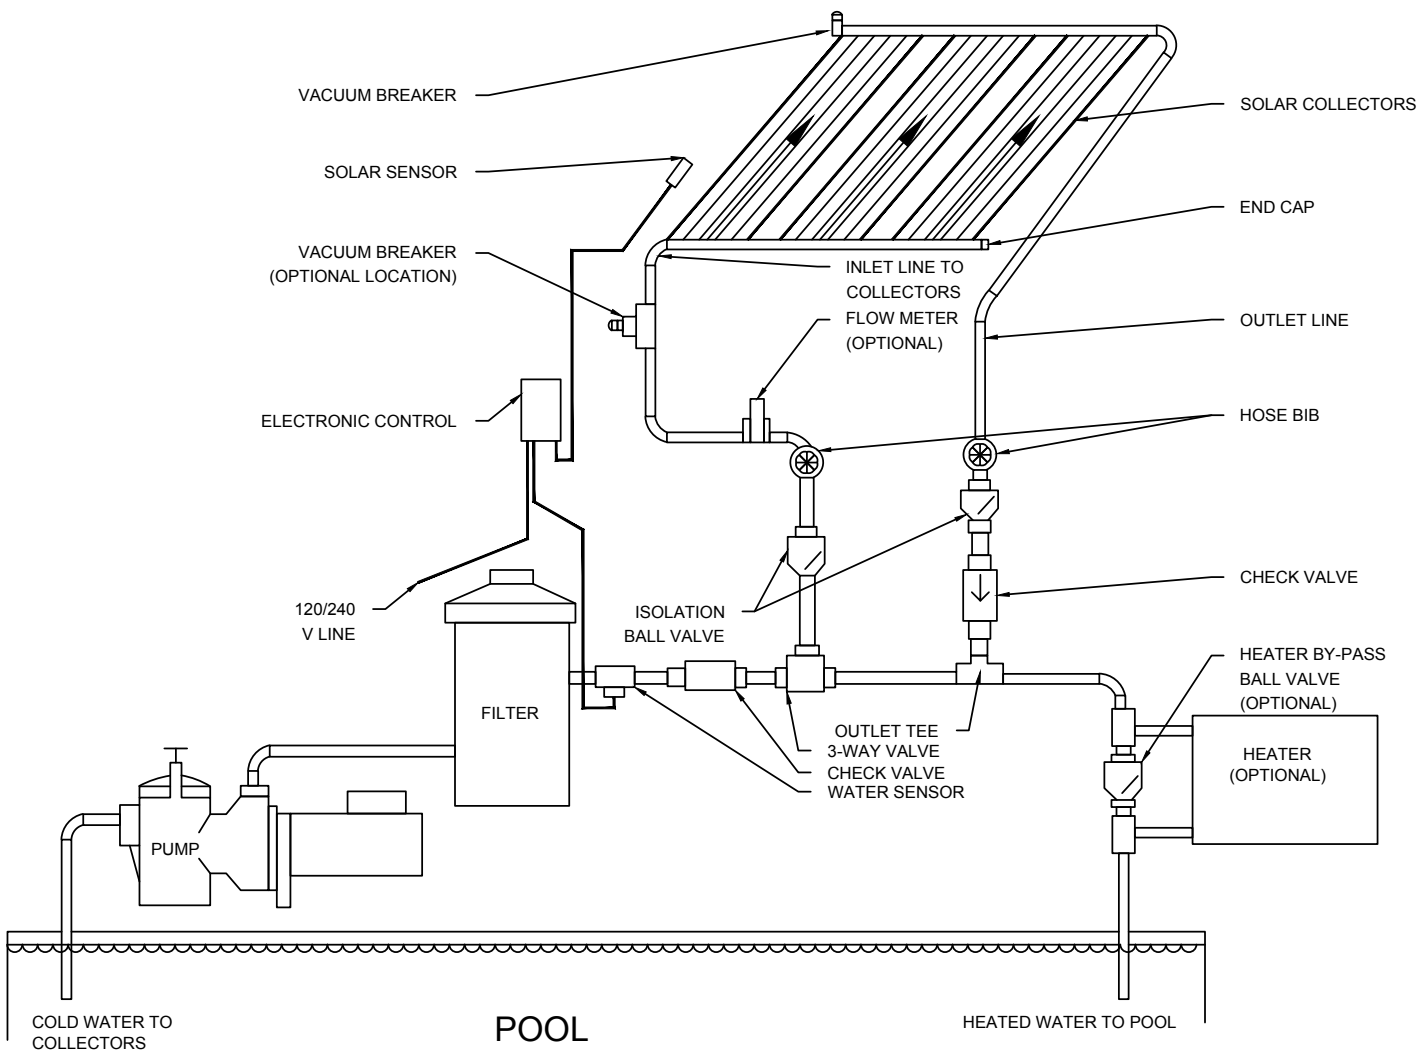

Fig. 13.1
2. Determine where the feed and return pipe will go over the edge of the roof. If possible, this should be perpendicular to the exact points where they will fasten into the existing system or into pipes coming from another location (see Fig. 13.1, page. 24).
Fig. 13.1 on page 21 shows how a typical SunUp solar pool heating system is plumbed into existing pool plumbing. This drawing may not be just like every system you encounter; the feed and return plumbing on a solar system may be reversed, or it may be a different type of filter, or it may have additional equipment such as a chlorinator, pool cleaner, gas heater, etc. It may also have a long run of plumbing from the pool equipment to the solar collectors.
Whether the system is like this or not, Fig. 13.1 will help you understand the flow of water from the pool, through the pump, filter, solar system, and back to the pool. Study the diagram and become familiar with the valves needed to connect the solar collectors to existing plumbing.
1. Study the plumbing after the filter and decide where you are going to install the check valve and the PVC tee fitting (see Fig. 13.1). If you have auxiliary equipment, you may need to re-plumb a portion of your existing plumbing so this equipment is located after the solar system as indicated in Fig. 13.1.
2. Cut the pipe after the filter where you have decided to locate the check valve and where your solar return pipe will attach to your existing pool return line. If your pool plumbing is 1-½", and you are running 2" plumbing to your solar system, you should be using 2" valves and piping for all of your new plumbing. Therefore you will need (2) 2"x1-½" reducer bushings to adapt your new 2" fittings to the existing 1-½" pipe.
6. Install the (2-1810-002) vacuum breaker about 4' up the feed line and above the top of the filter. Face the PVC tee to the outside as shown in Fig. 13.1. Wrap the threads of the vacuum breaker with Teflon tape and screw it into a 3/4" threaded reducer bushing.